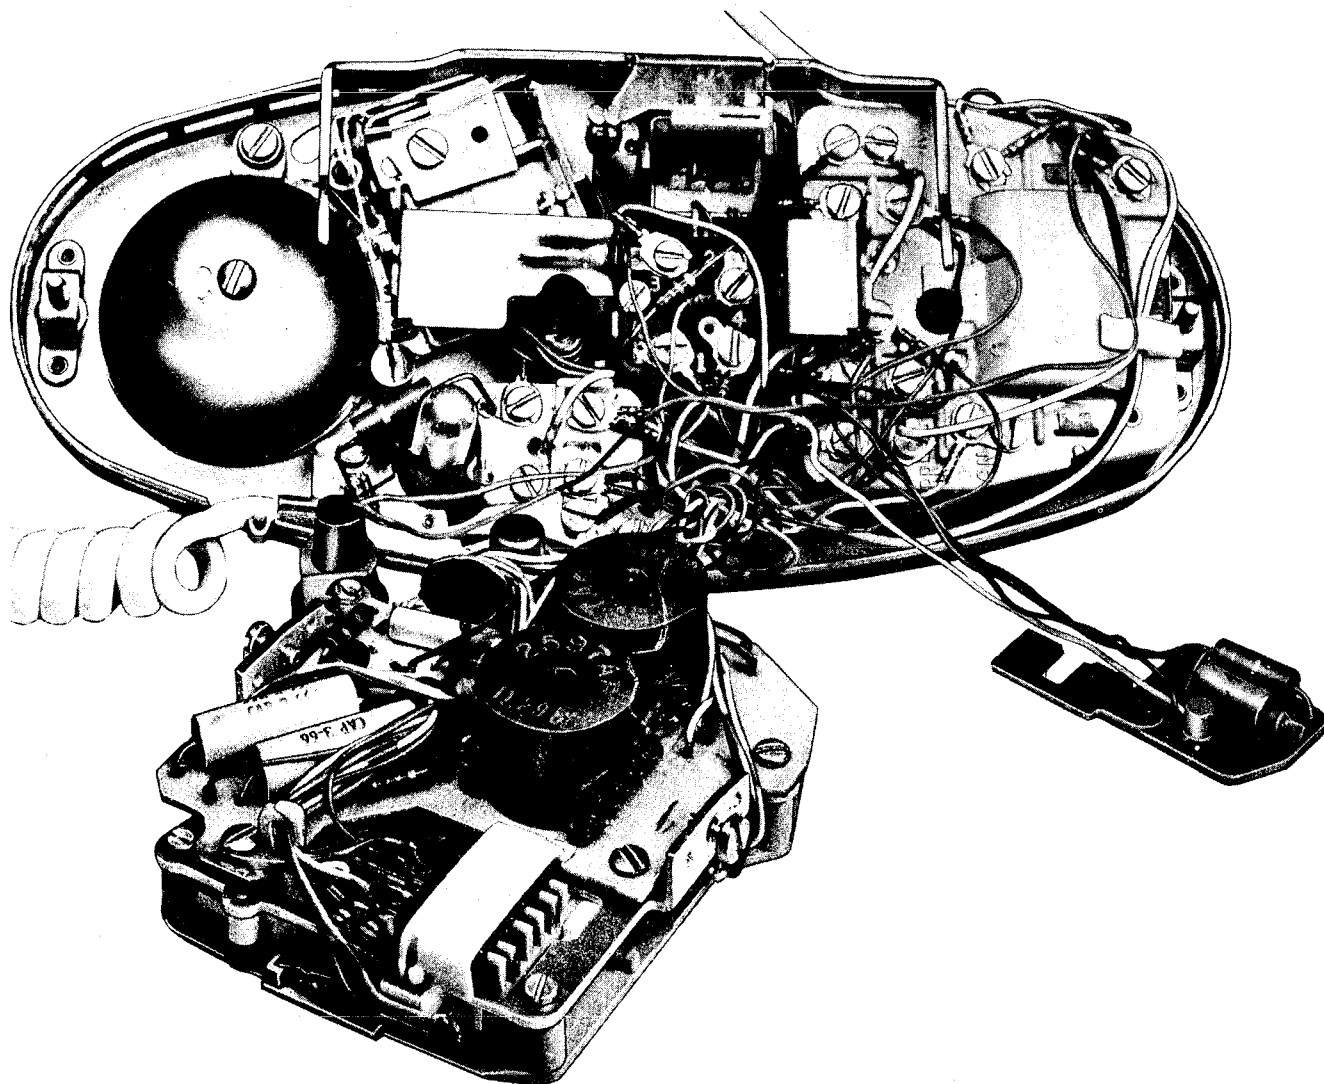

Fig. 9 — Polarity Guard Installation in 2702D Telephone Set
on the message waiting lamp terminal board to facilitate connecting the polarity guard (Fig. 9). Use D-161488 connectors (2) to connect polarity guard in 2712B sets equipped with home interphone transmitter.